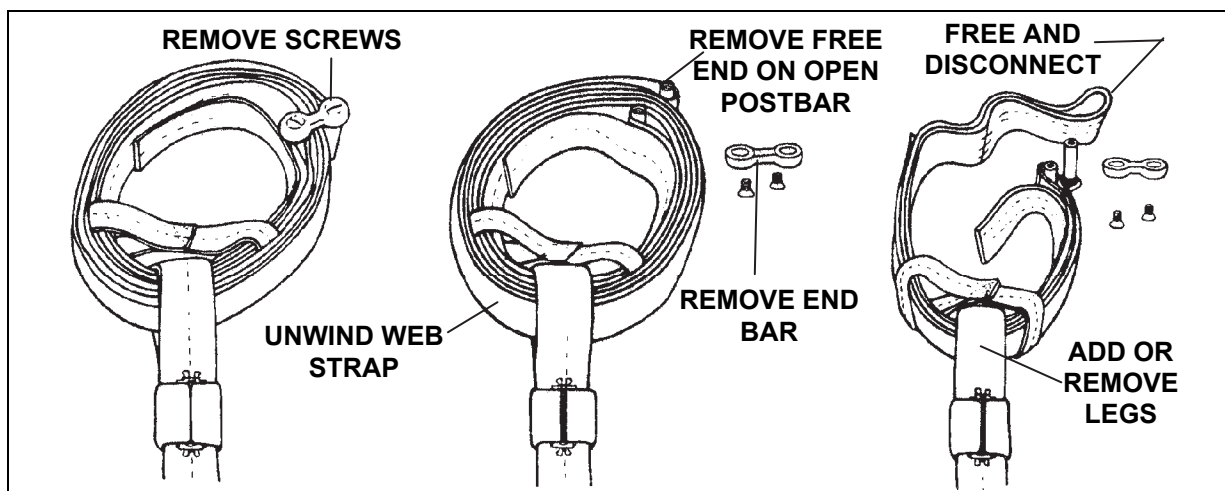

Figure 6-27. Ring Taken Apart
- Remove the two screws and end bar from the web ring connector link (figure 6-27).